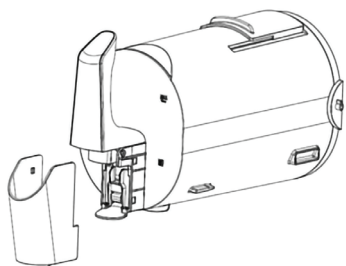

Figure 5
1. Remove the outlet port cover (see Figure 5).